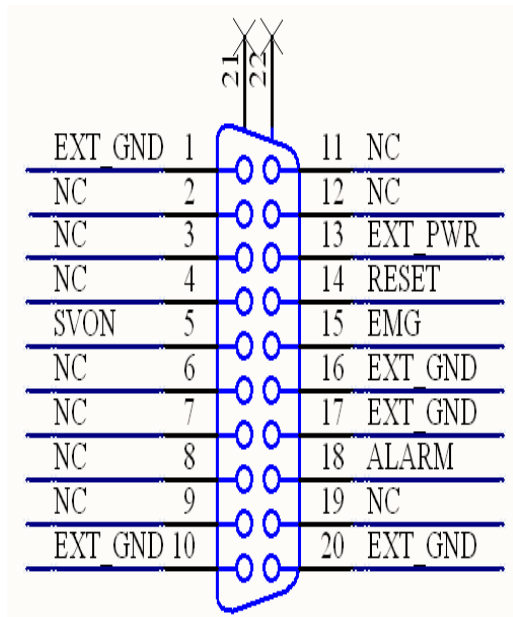

Fig1-6 Pin definition for CN-XB, CN-YB
■ CN-XB & CN-YB (Fig1-6 connector for each AXIS)
The connectors CN-XB and CN-YB are 20-pin connectors that enable you to connect to the CNB connector of your motor drivers. Fig.1-6 shows the pin assignment for the 20-pin connector on the DN-8237-MB, and the Table 1-6 shows its I/O connector signal description.